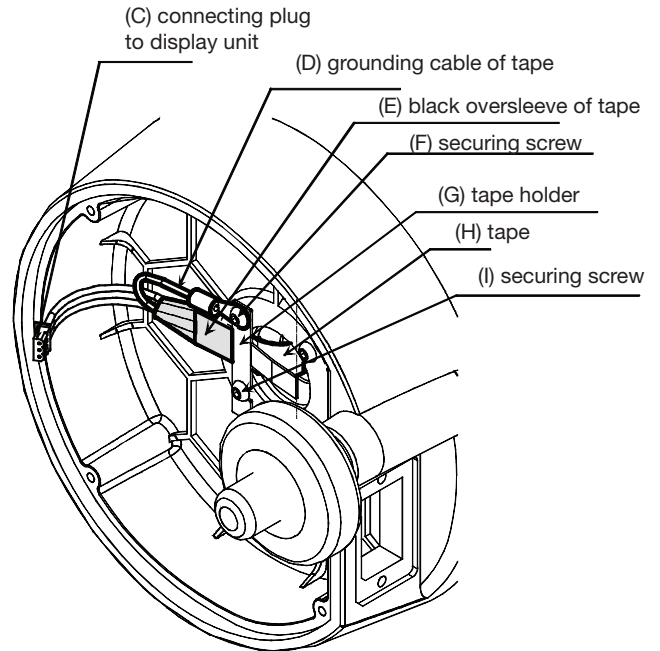
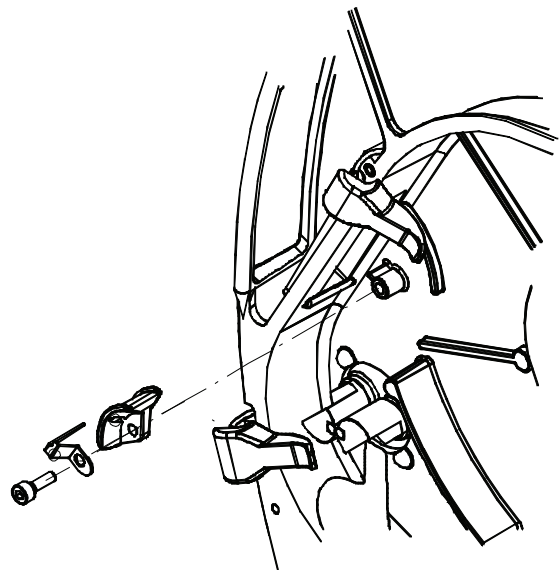

Figure 10-6
Figure 10-8
- Disconnect the connecting plug (C) as shown on Figure 10-6 and remove the display unit.
- Unscrew with the 2.5 Allen key the tape holder (G) by removing the 2 screws (F) and the grounding cable (D) as shown on Figure 10-6. Do not loose the 2 remaining screws that secure the reel axle.
- Unscrew the reading index and remove it (Figure 10-8).
- On the electronic box side, adjust the black oversleeve just to the edge of the tape holder (pull the tape gently from the other side) and tighten the tape end as shown on Figure 10-6 with.
- If necessary, readjust the loop (M) and the S-shape (L) of the tape at the core of the reel axle.
- Reinstall the reading index (Figure 10-8).
- Disconnect the tape plug, item (C) shown on Figure 10-6.